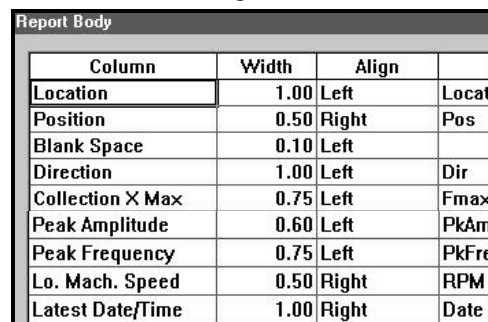

Figure 8
- **Body** – This box, along with 'Condition', is the key. Here you will select which fields and bits of data will show up in your report. The setup is shown in Figure 8. The fields under 'Column' are accessed by double-clicking on the field. Using the first letter of the field selected (Location, Position, etc.) will eventually get you to that selection. The width is manually programmed in. The alignment is accessed by double-clicking on the field and the final column – mostly cut off in Figure 8 – is the name you want to appear at the top of each column and is manually inputted.